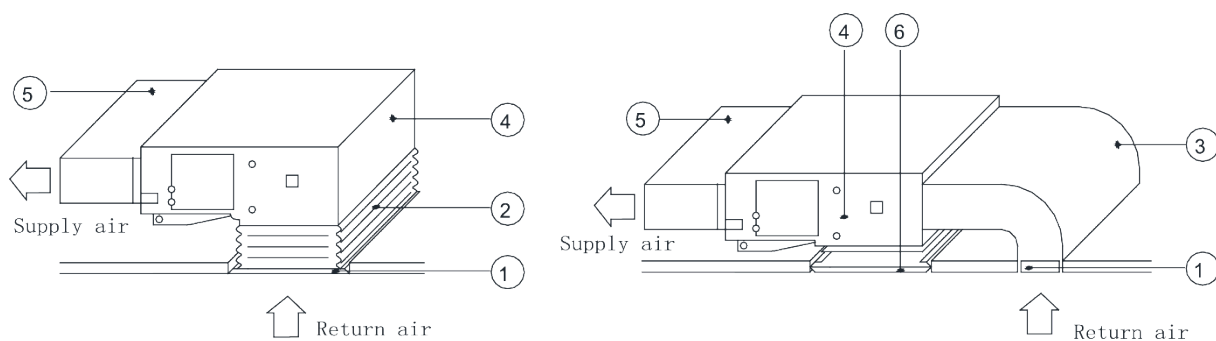

Fig 4.4.7
- (2) If bottom return air is required, switch the positions of the rectangular return-air flange and the return-air cover plate.
- (3) Connect one end of the return-air duct to the return-air opening on the indoor unit. Connect the other end to the return-air grille. A short flexible canvas duct section may be used to help with alignment and height adjustment. Reinforce the canvas duct as needed.
- (4) Bottom return air may be louder than rear return air. If bottom return air is used, consider adding a silencer and/or static pressure box to reduce noise.
- (5) Choose the return-air installation method based on the building layout, service access, and maintenance needs, as shown in Fig. 4.4.7.